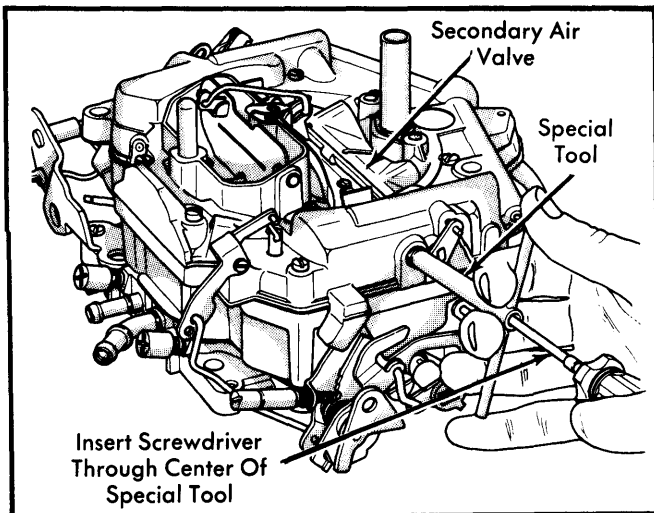

Fig. 6 Adjusting Secondary Air Valve Spring Tension
1) Loosen air valve lock plug. Turn air valve adjustment plug clockwise. This allows air valve to move to wide open position. See Fig. 6.